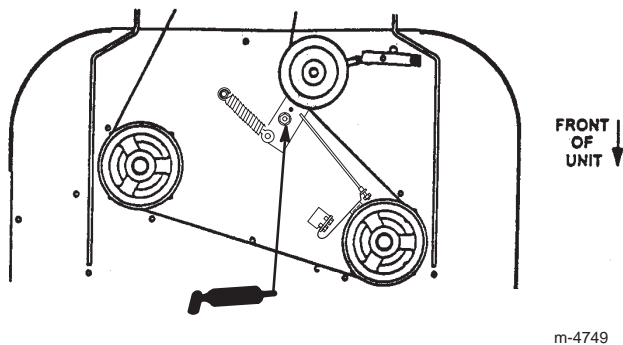

Figure 38
3. Lubricate the blade belt idler arm pivot (Fig. 38) after every 50 operating hours.